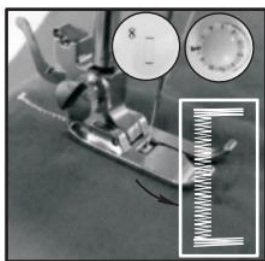

Fig.19
4. Choose the stitch pattern #8, then turn on switch and sew 5-6 stitches in low speed, then turn off switch. (Fig.19)